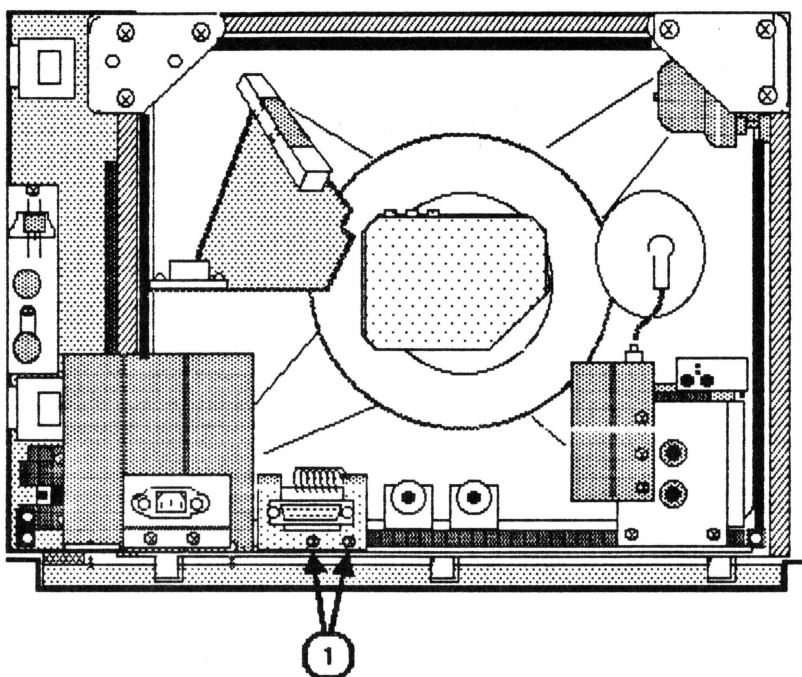

FIGURE 5
5. Remove the two Phillips screws (Figure 5, #1), which attach the DB-15 connector assembly to the base plate.
1. Replace the two screws (Figure 5, #1) that attach the DB-15 connector to the base plate.